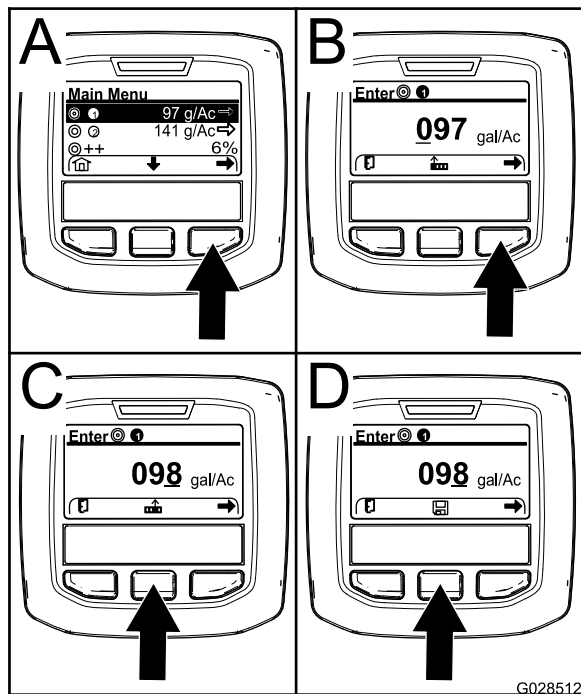

Figure 67
2. If needed, press the center selection button to highlight the application rate for sprayer program 1 (Figure 67).
3. Press the right selection button to select sprayer program 1 (A of Figure 67).
- Press the right selection button (B of Figure 67) to move the cursor to the next numerical position to the right.
- Press the center selection button (C of Figure 67) to increase the numerical value (0 to 9)
Note: The Save Icon will appear above the center selection button (D of Figure 67).
6. Press the center selection button (D of Figure 67) to save the programming for application rate.